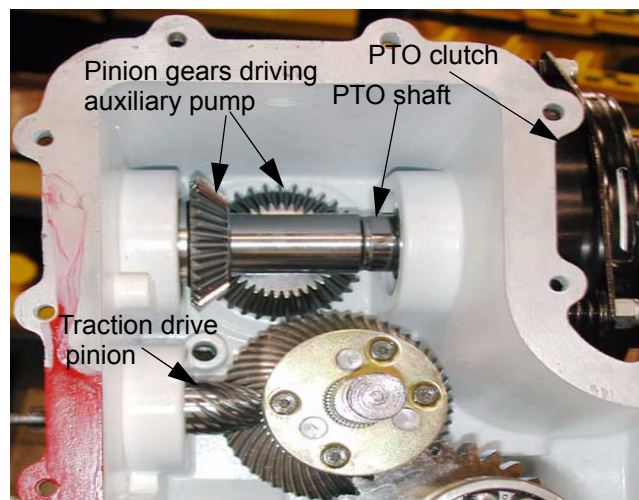

Figure 2.2
- 2.2. The input shaft drives the auxiliary hydraulic pump and the P.T.O. They are driven at relatively constant engine speed, rather than in relation to ground speed. See Figure 2.2.